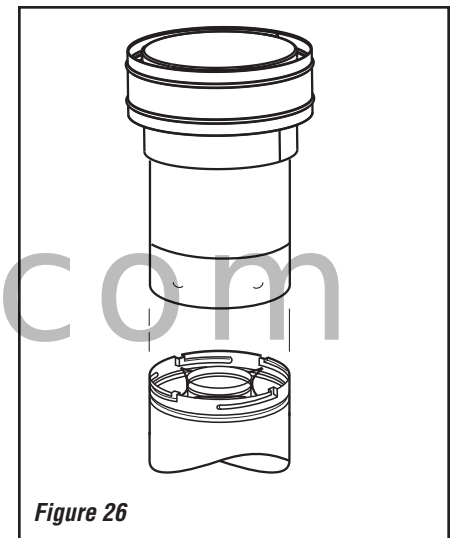

Figure 26
K. Install the vertical termination—The final step involves installation of the SV4.5CGV-1 Vertical Termination. Extend the vent sections to the height as shown in the "Vertical vent termination section" on **Page 6**. The SV4.5CGV-1 Vertical Termination (**Figure 26**) installs in the exact same fashion as any other **Secure Vent®** section. Align the termination over the end of the previously installed section, adjusting the radial alignment until the four locking dimples of the termination are aligned with the inlets of the four incline channels of the last vent section. Push the termination down until it fully engages, then twist the termination clockwise running the dimples down and along the incline channels until they seat at the end of the channels.